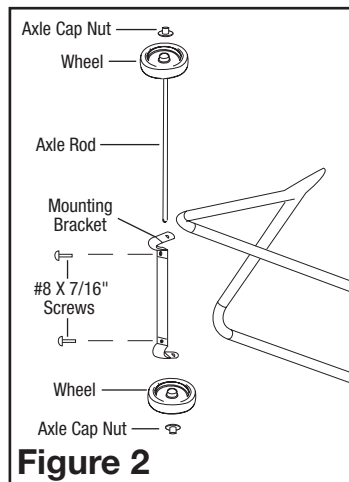

Figure 2
1. Place mounting bracket on the underside of the stand halves to left of the motor (**Figure 2**).
2. Install two #8 X 7/16" screws through the bottom of the stand using a #2 Phillips head screwdriver (**Figure 2**).
3. Slide axle rod through mounting bracket (**Figure 2**).
4. Install the two wheels onto the axle rod and secure with two axle cap nuts. Press axle cap nut onto axle rod (**Figure 2**).